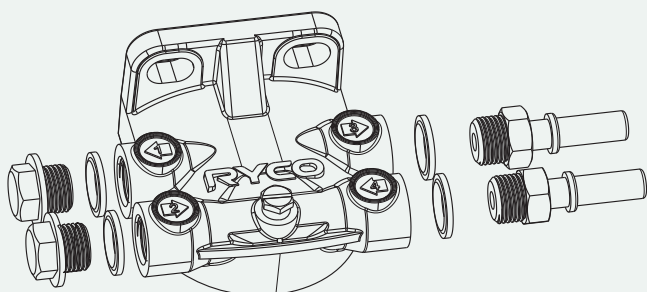

FIGURE 3
- 1 Install the Ryco fuel water separator head with metal quick connectors, blanking plugs and rubber bonded washers, as per Figure 3. Tighten blanking plugs (port 1 & 2) and quick connectors (port 3 & 4).